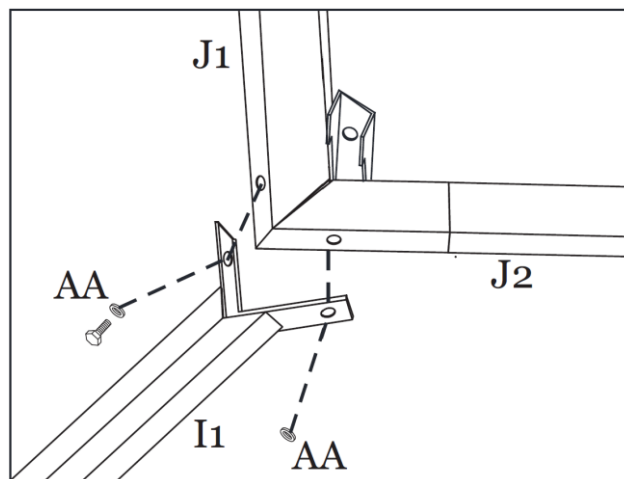

Figure 8-2
Step 8B: Attach the Main Roof Corner Support (I1) to Short Connector (J1) on the Main Roof Center Frame using Bolts/ Washers (AA). See Figure 8-2.